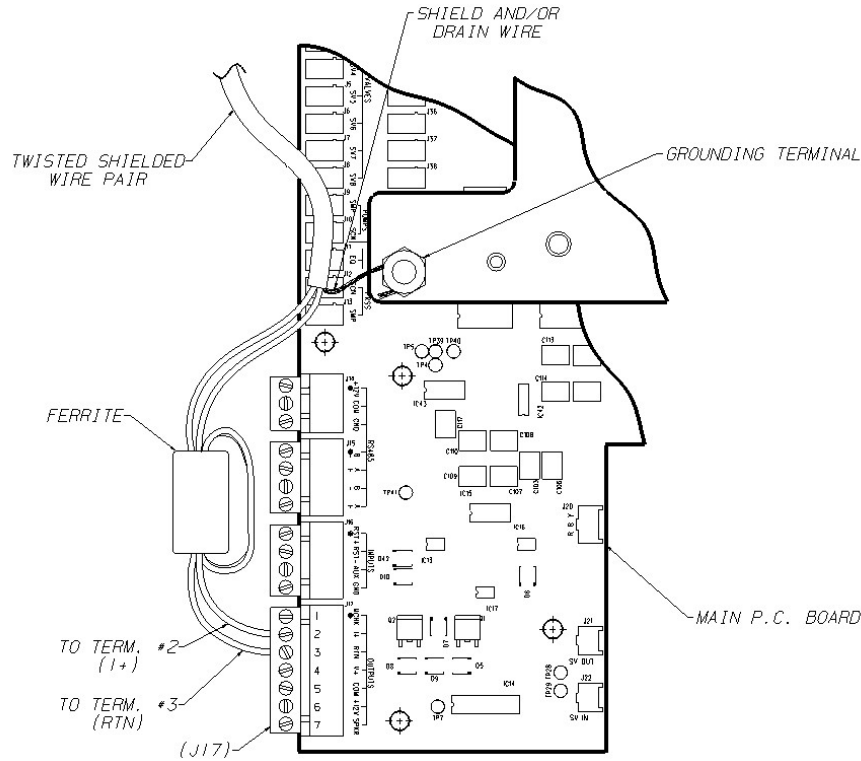

Figure 2-7.
- The shield or its drain wire (FIGURE 2-7) must be connected to the grounding terminal on the power supply plate.